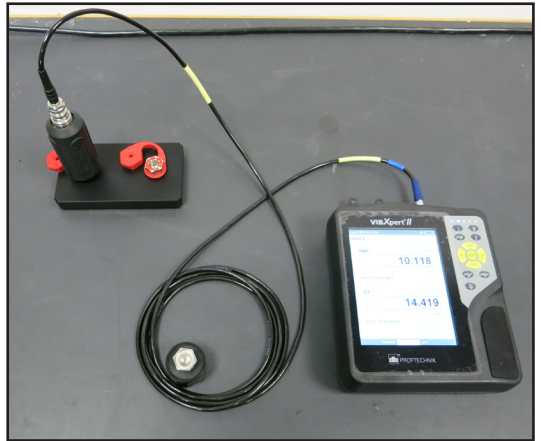

Fig. 2: Test setup, coding unit
- Plug the VIBCODE sensor into the first measurement point (2662) on the VIBCODE demo set (Fig. 2).